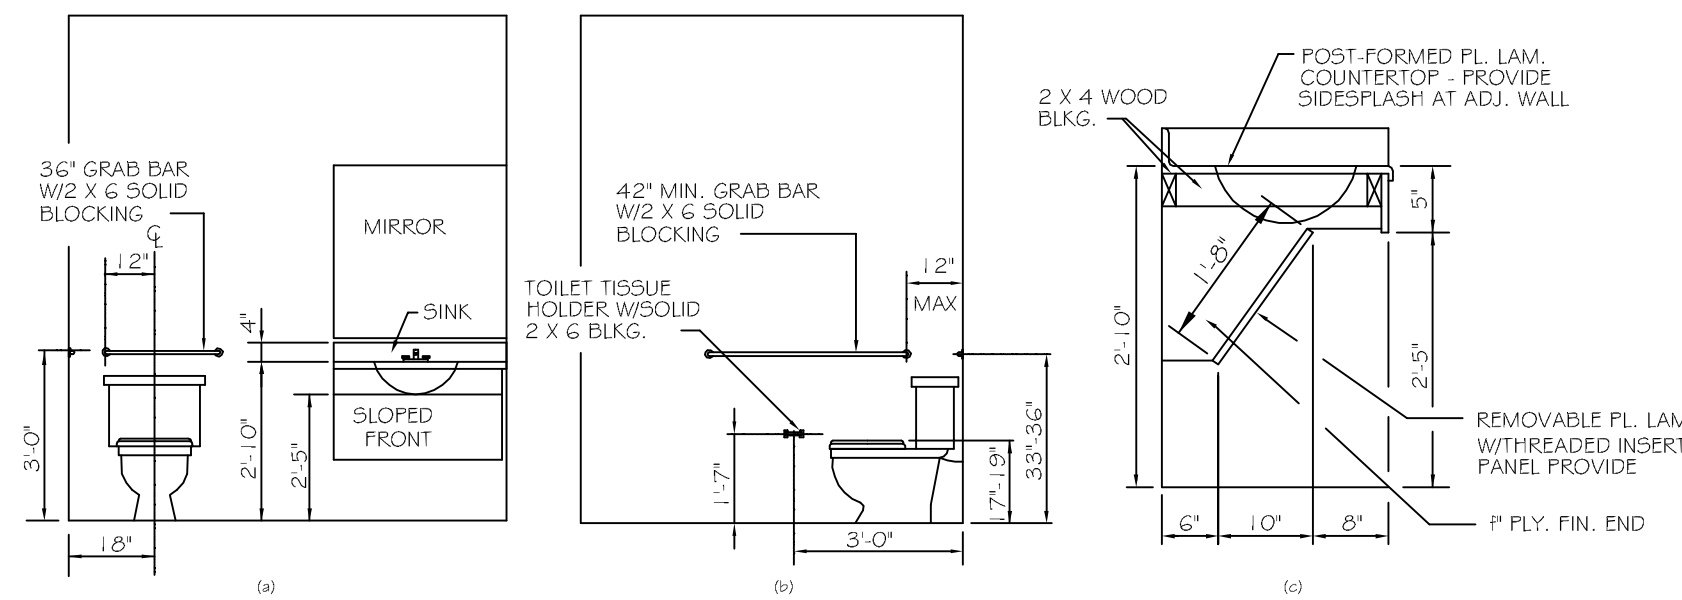

FIG. 31 LAVATORY & WATER CLOSET CLEARANCES
- 4.1.6.3 HEIGHT THE HEIGHT OF WATER CLOSETS SHALL BE 17" TO 19" (430mm TO 485mm), MEASURED TO THE TOP OF THE TOILET SEAT. SEATS SHALL NOT BE SPRUNG TO RETURN TO A LIFTED POSITION (SEE FIG. 31).
- 4.1.6.4 GRAB BARS GRAB BARS FOR WATER CLOSETS NOT LOCATED IN STALL SHALL COMPLY WITH 4.2.6 AND FIG. 31.
- 4.1.6.6 DISPENSERS TOILET PAPER DISPENSERS SHALL BE INSTALLED WITHIN REACH, AS SHOWN IN FIG. 31. DISPENSERS THAT CONTROL DELIVER, OR THAT DO NOT RETURN CONTROLED FAPER FLOW, SHALL NOT BE USED.
- 4.1.7.6 GRAB BARS GRAB BARS MAY BE MOUNTED WITH ANY DESIRED METHOD AS LONG AS THEY HAVE A GRIPPING SURFACE AT THE LOCATIONS SHOWN IN FIG. 31 AND DO NOT OBSTRUCT THE REQUIRED CLEAR FLOOR AREA. GRAB BARS SHALL COMPLY WITH 4.2.6.
- 4.1.9.2 HEIGHT & CLEARANCES LAVATORIES SHALL BE MOUNTED WITH THE RIM OR COUNTER SURFACE NO HIGHER THAN 48" (1220mm) ABOVE THE FINISH FLOOR. PROVIDE A CLEARANCE OF AT LEAST 29" (735mm) ABOVE THE FINISH FLOOR TO THE BOTTOM OF THE APRON (SEE FIG. 31).
- 4.1.9.6 MIRRORS MIRRORS SHALL BE MOUNTED WITH THE BOTTOM EDGE OF THE REFLECTING SURFACE NO HIGHER THAN 40" (1015mm) ABOVE THE FINISH FLOOR (SEE FIG. 31).
- 4.2.4.1 GENERAL SINKS SHALL BE MOUNTED WITH THE COUNTER OR RIM NO HIGHER THAN 34" (865mm) FROM THE FINISHED FLOOR (SEE FIG. 31).